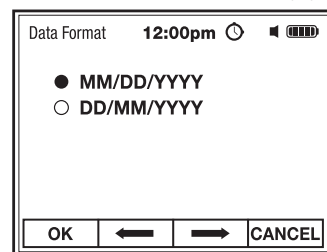

Fig. 26
2. Use the **F2** ⇐ and **F3** ⇒ soft keys to select Month/Day/Year or Day/Month/Year (Fig. 26).
3. Press the **F1 OK** soft key to save setting and return to Date/Time Menu (Fig. 26).